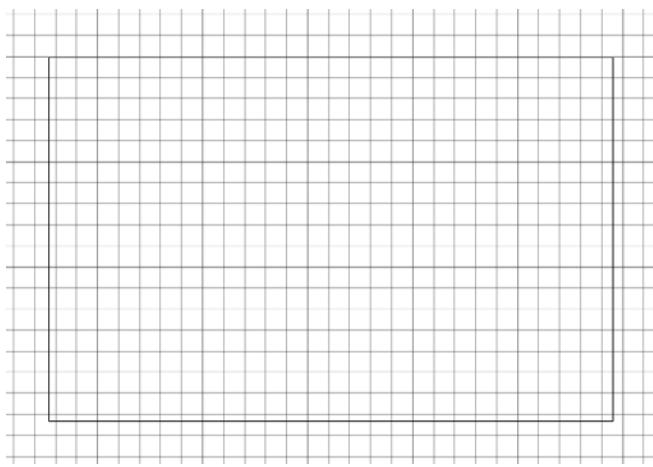

FIGURE 4.3 The cabin as you left it in Chapter 3
1. With AutoCAD running, choose Application Menu > Open > Drawing. The Select File dialog box opens, where you can navigate to the 03A-FPLAY2.dwg you saved at the end of Chapter 3. Click Open to display the cabin drawing as shown in Figure 4.3.